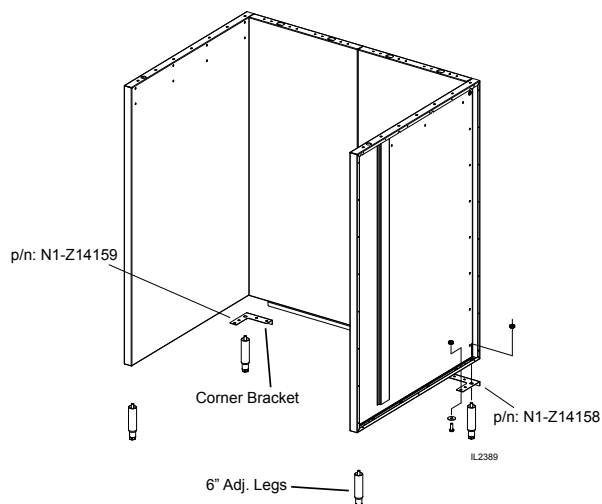

Figure 3
4. Align the rear corner brackets in place (Fig 3) and secure with bolt, washer and nut (4 places each bracket).